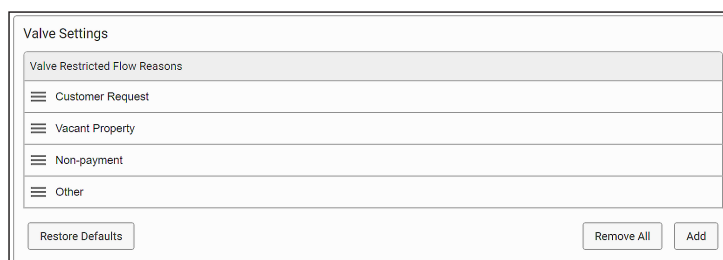

Figure 5: Default valve restricted flow reasons
- a. Scroll down to *Valve Settings* to see the default *Valve Restricted Flow Reasons* (Figure 5). The reasons will display on the BEACON **Valve Position** window if you schedule a valve position change. See an example at "Scheduling Valve Position Change" on page 14.